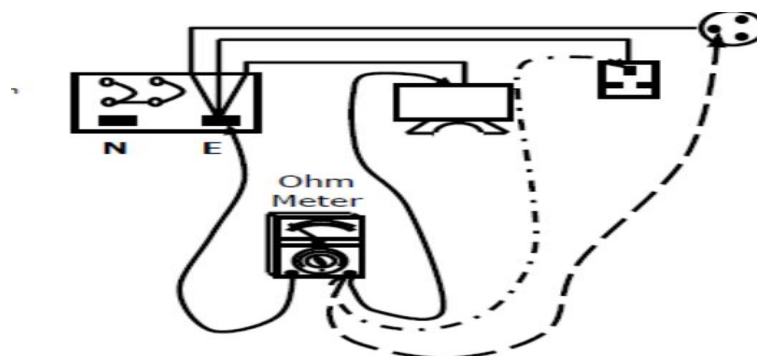

Figure 2.1 – Protection Conductor Continuity Test
- connected the test leads as in the Figure 2.1;